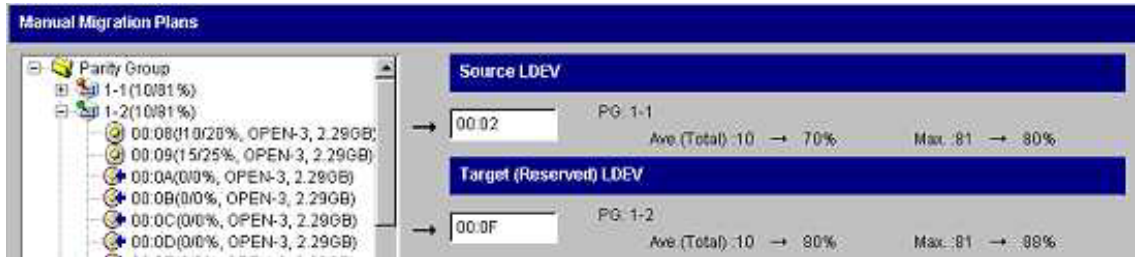

Figure 5.5 Source and Target Text Boxes (example only)
4. Drag the source volume from the tree view and drop it to the **Source LDEV** text box (see Figure 5.5).
6. Returning to the **Manual tab**, in the tree view, locate and drag the **target** (destination) volume and drop it to the **Target LDEV** text box (refer to Figure 5.5).